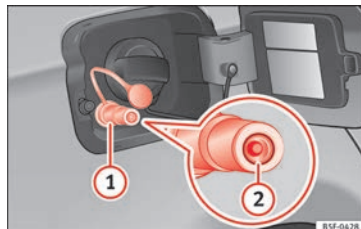

Fig. 246 Tank flap open: gas filler mouth ①, filler mouth retainer ②
- Remove the plug from the gas filler mouth » **Fig. 246 ①**.